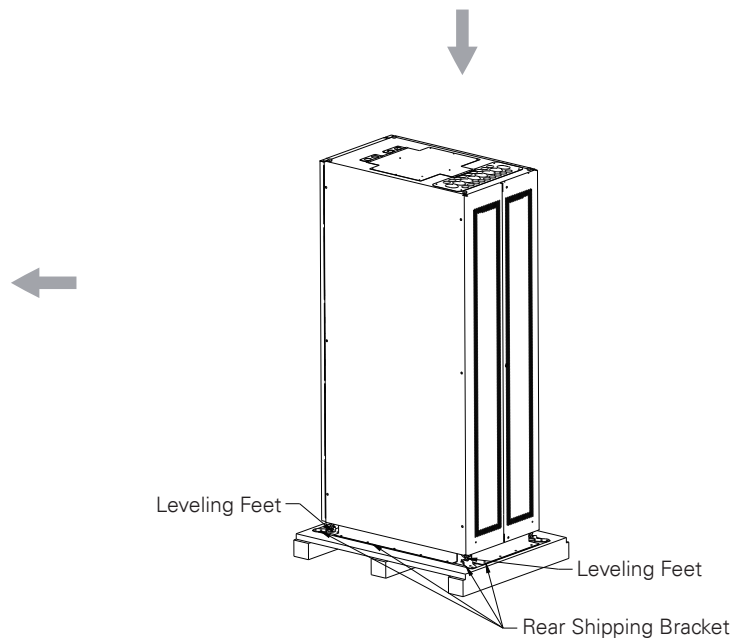

Figure 3-6. Removing the Rear Shipping Bracket
1. If not already accomplished, use a forklift or pallet jack to move the UPS cabinet to the installation area, or as close as possible, before unloading from the pallet. Insert the forklift or pallet jack forks between the supports on the bottom of the pallet (see Figure 3-6 through Figure 3-10 for the UPS cabinet centre of gravity measurements).
5. Remove four bolts securing the rear shipping bracket to the cabinet and four bolts securing the bracket to the pallet (see Figure 3-6). If installing the cabinet permanently, retain the shipping bracket and securing hardware for later use.